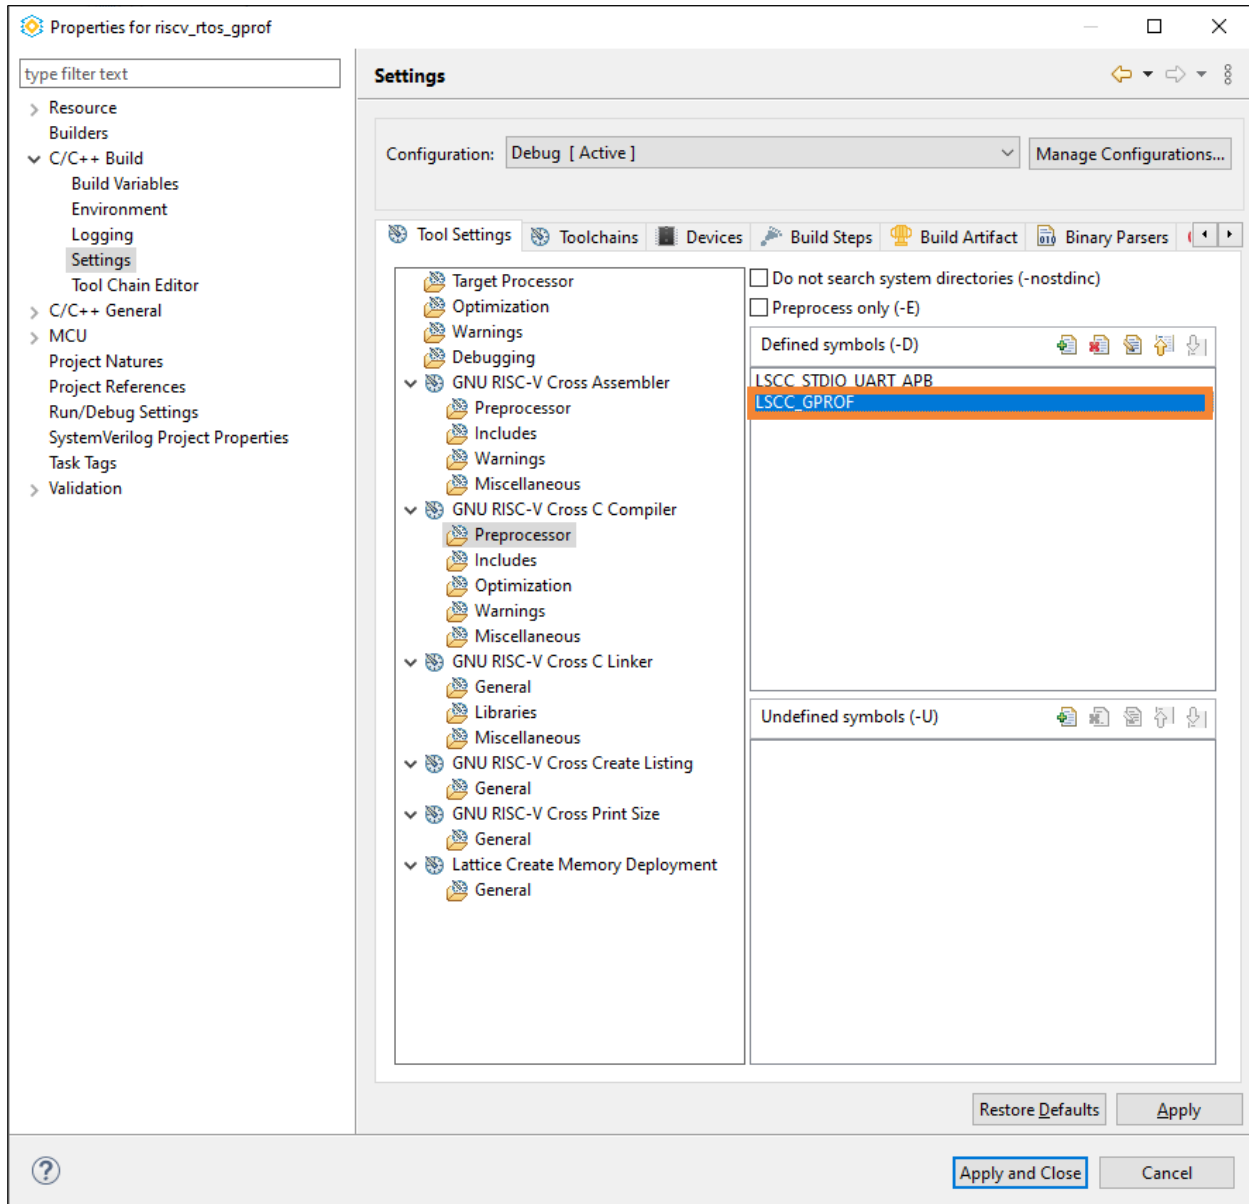

Figure 5.32. LSCC_GPROF Symbol
4. Select **GNU RISC-V Cross C Compiler > Preprocessor**. Add the defined symbol, LSCC_GPROF (Figure 5.32).